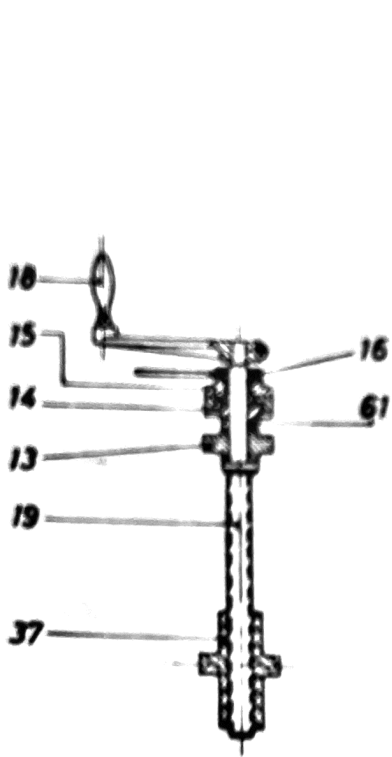
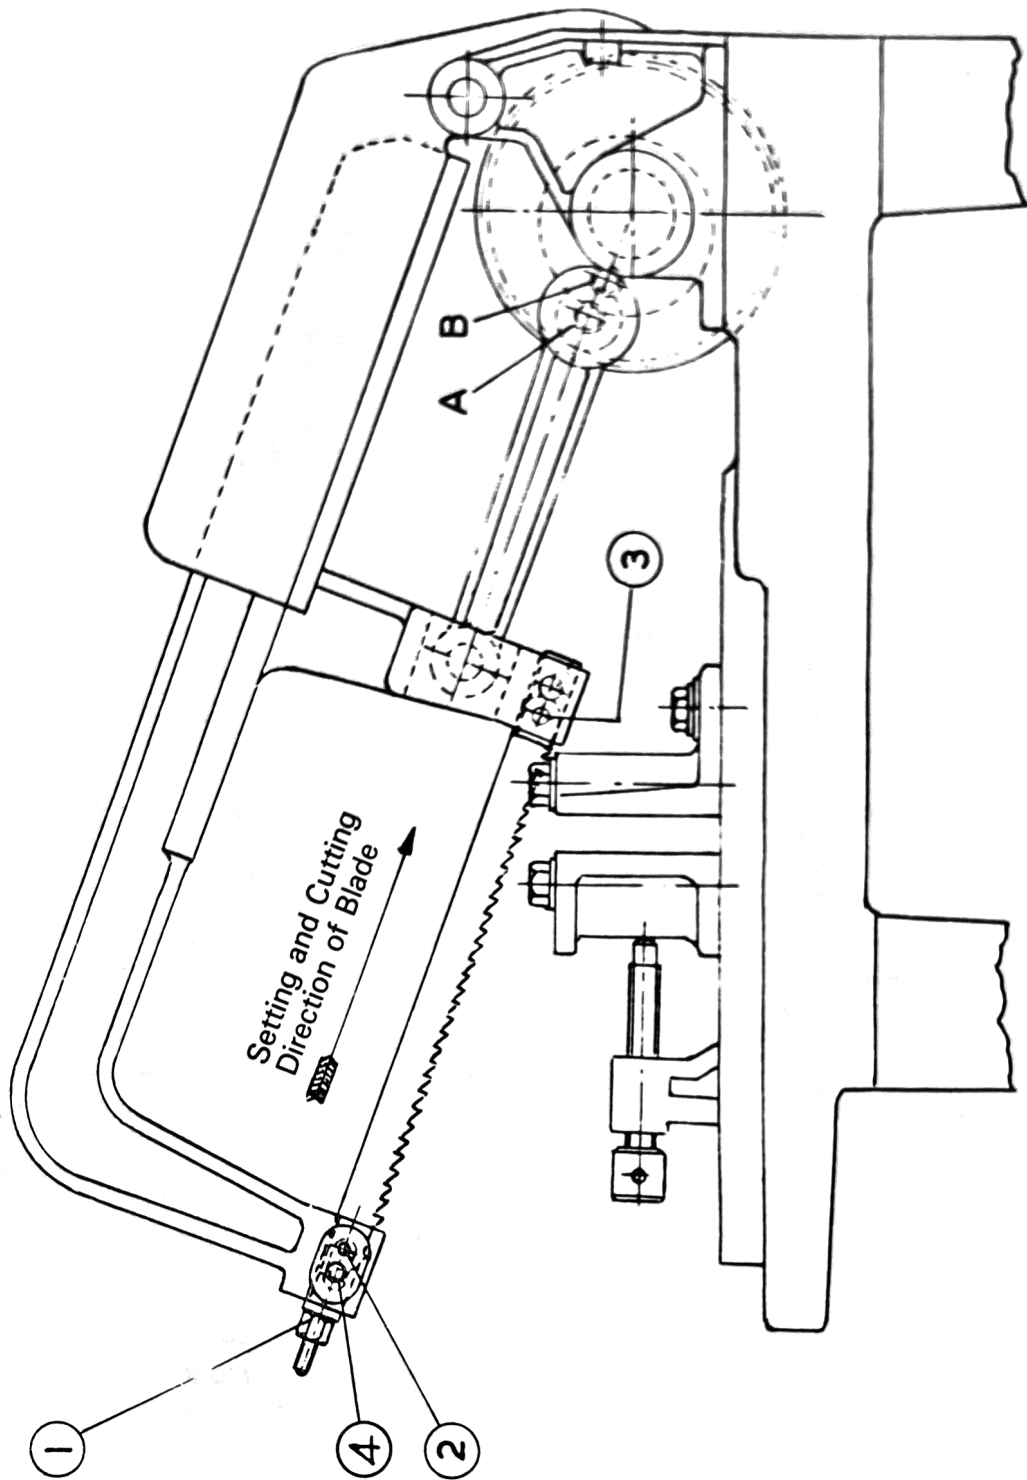
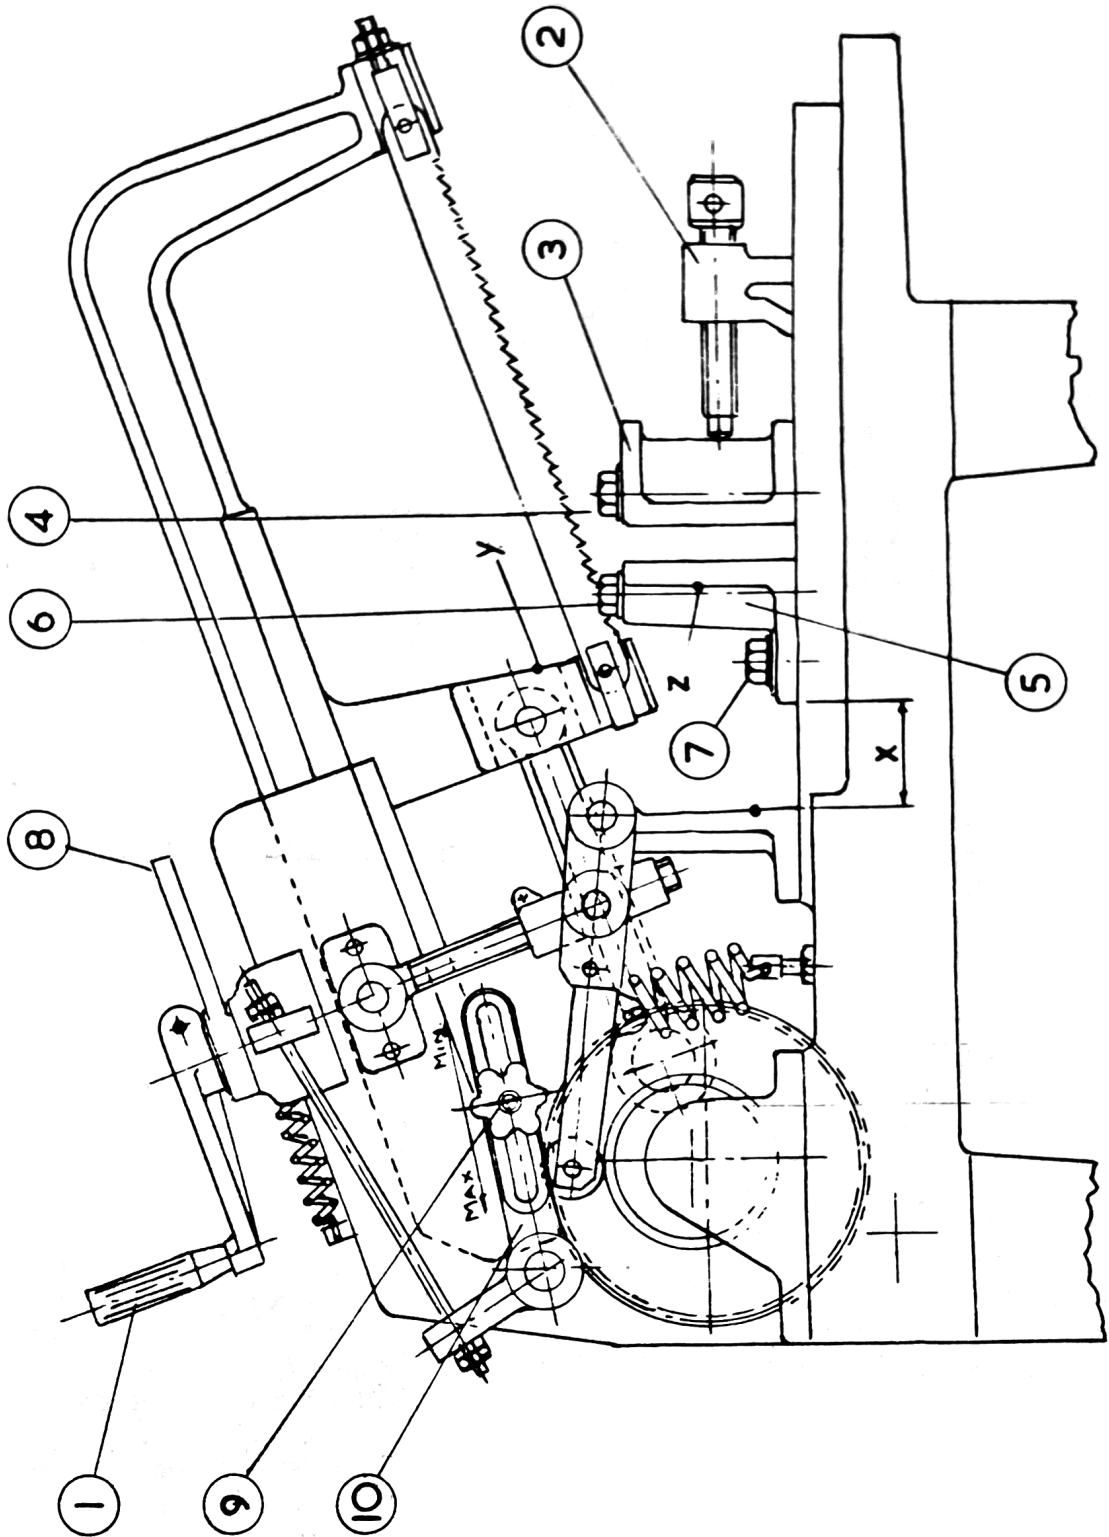

Fig. 5
Fig. 4
Fig. 9
- 1 Loosen Blade Tensioning Nut 1 Fig. 4.
- 2 Remove Front Blade Clamp Washer off Pin 2 Fig. 4 and Rear Blade Clamp Washer off Pin 3 Fig. 4.
- 3 Loosen Front Blade Clamp Bolt 4 Fig. 4.
- 4 Locate Blade with the points of the teeth pointing in the direction as indicated in Fig. 4 (ie. – to cut when Bow Frame moves to rear of machine) on the locating Pins 2 and 3 Fig. 4 adjusting the centres of Pins 2 and 3 Fig. 4 by means of Blade Tensioning Nut 1 Fig. 4 so that the Pins 2 and 3 Fig. 4 align with the fixing holes in the Blade.
- 5 Fit Clamp Washers on Pins 2 and 3 Fig. 4 and secure with Nuts.
- 6 Tension Blade by rotating Tensioning Nut 1 Fig. 4 clockwise tapping Blade with a metallic object whilst rotating this nut until a ringing tone is obtained from the blade. When this condition is reached the blade is adequately tensioned.
- 7 Tighten Front Blade Clamp Bolt 4 Fig. 4.
Raise blade by rotating Handle 1 Fig. 9 anti-clockwise until there is sufficient clearance between the blade and the surface of the bed of machine and adjust the moveable jaw of the vice by sliding Vice Jaw 3 Fig. 9 along the bed of the machine until there is sufficient room to pass the cross section of the stock material to be cut into the vice.
Slide Moveable Vice Jaw 3 Fig. 9 up to face of material to be cut and nip Vice Jaw Securing Bolt 4 Fig. 9. Locate heel of Vice Nut 2 Fig. 9 in suitable heel location on bed of machine and tighten Vice Screw securely and then tighten Vice Jaw Bolt 4 Fig. 9. (Check length which is to be cut-off by measurement). If it is required that a number of pieces of material of the same length are to be cut-off set material stop which is carried on stop bar so that face of the material stop contacts the end of the bar which is to be cut and secure the stop bar and material stop by means of the locking knobs.
Long Stroke condition is obtained with crank pin in position A Fig. 4. Stroke length 125mm.
Short Stroke condition is obtained with crank pin in position B Fig. 4. Stroke length 75mm.
When the crank pin is in position A Fig. 4 giving long stroke condition dimension X Fig. 9 (distance between face of fulcrum bracket and edge of fixing flange of Rear Vice Jaw) must never be less than $1\frac{1}{2}$ ".
Observance of this condition will ensure that there is always clearance between face Y Fig. 9 of Bow Frame and face Z Fig. 9 of Rear Vice Jaw when the Bow Frame is fully extended towards the front of machine.
Care should also be taken when initially setting up the machine with crank pin in position B Fig. 4 giving short stroke condition ensuring that the Rear Vice Jaw is so positioned that clearance is present between face Y Fig. 9 of Bow Frame and face Z Fig. 9 of Rear Vice Jaw when the Bow Frame is fully extended towards the front of machine.
The Rear Vice Jaw 5 Fig. 9 is adjustable so that angular cutting-off can be carried out on this machine.
To set the face of the Rear Vice Jaw 5 Fig. 9 to the required angle between 90° and 45° to the blade line release Vice Jaw Bolt 6 Fig. 9 and Setscrew 7 Fig. 9.
Set the required angle on a protractor and with the stock of the protractor against the blade rotate the Rear Vice Jaw 5 Fig. 9 until the Face of the Vice Jaw aligns with the blade of the protractor.
Tighten Vice Jaw Bolt 6 Fig. 9 and Setscrew 7 Fig. 9 securely.
With the material to be cut pushed up to the face of the Rear Vice Jaw 5 Fig. 9 and the stock to be cut projecting the required length beyond the blade on the right hand side the Moveable Vice Jaw 3 Fig. 9 is pushed up to the face of the material to be cut and is tightened as previously described.
The Rear Vice Jaw 5 Fig. 9 of these two models is fitted with two dowels which locate the face of the jaw at 90° to the line of the blade.
When the Rear Vice Jaw 5 Fig. 9 is returned to the 90° position replace the two dowels.
The feed rate is controlled by the position of Stud 9 Fig. 9 in the Feed Rate Adjustment Lever 10 Fig. 9 which determines the amplitude of rise and fall of the Feed Rate Adjustment Lever 10 Fig. 9 and hence controls the amount of movement imparted to the sprag clutch mounted on the Feed Screw 19 Fig. 5. The resistance to rotation of the Feed Screw 19 Fig. 5 can be adjusted by means of the set screw fitted to the split portion of the Feed Nut 37 Fig. 5.
To decrease the feed rate move Stud 9 Fig. 9 away from the pivot point of Feed Rate Adjustment Lever 10 Fig. 9.
To increase the feed rate move Stud 9 Fig. 9 towards the pivot point of Feed Rate Adjustment Lever 10 Fig. 9.
The amount of feed selected will depend on the type of material to be cut and care should be exercised when setting Stud 9 Fig. 9.
Disengage Feed Clutch by rotating Clutch Locking Handle 8 Fig. 9 half a turn anti-clockwise.
Set feed rate per stroke by adjusting position of Feed Rate Control Pin 9 Fig. 9 in Feed Rate Adjustment Lever 10 Fig. 9 (eg. set pin midway along slot when cutting 40mm diameter mild steel bar) and secure with Locking Knob.
Lower the blade to the work by rotating Handle 1 Fig. 9 clockwise until the blade is within approximately 2mm of the surface of the material to be cut.
Rotate Clutch Locking Handle 8 Fig. 9 clockwise thus engaging the Feed Clutch.
Disengage Feed Clutch by rotating Clutch Locking Handle 8 Fig. 9 half a turn anti-clockwise and raise blade to the start position for the next cut by rotating Handle 1 Fig. 9 anti-clockwise.